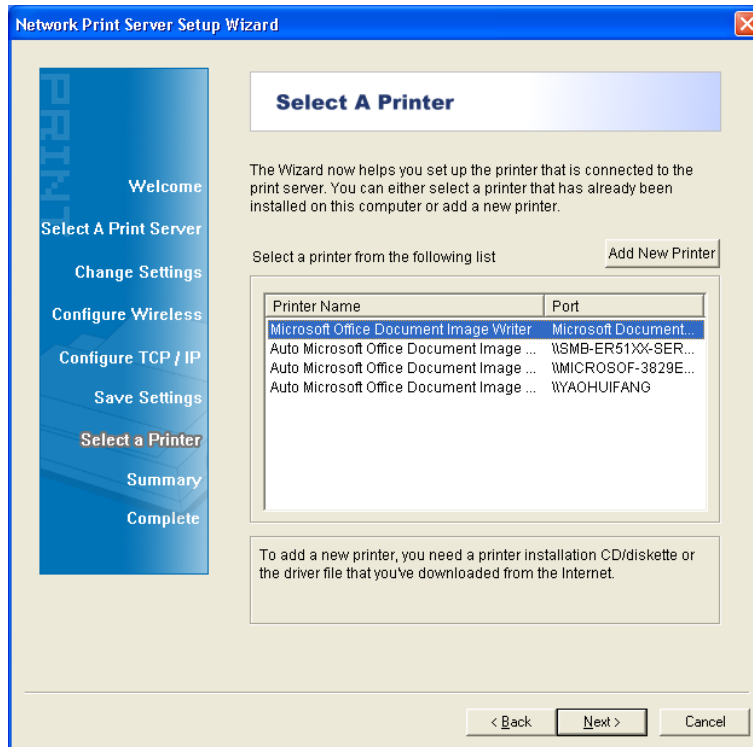
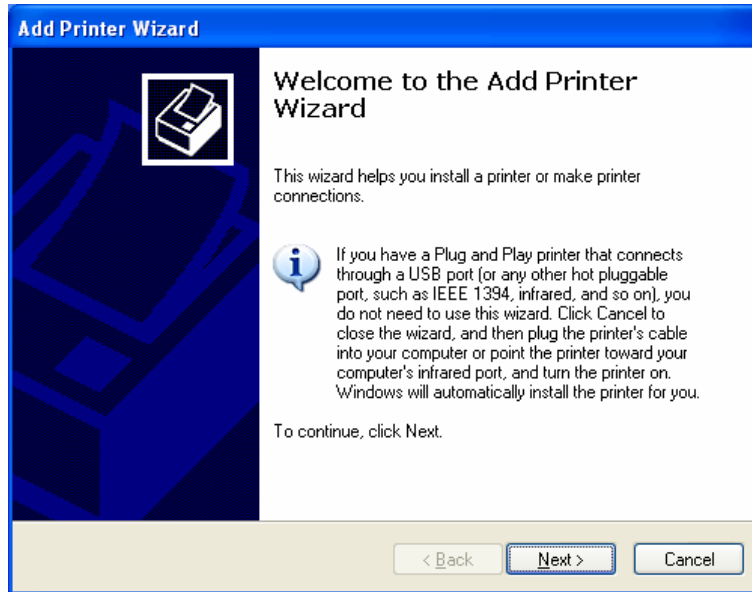

Figure 3-9
Figure 3-11
- Select **“No”** if you don’t need to change any settings. Click **Next** and then appears Figure 3-9. Skip to Step 8.
8. After that the “**Select a Printer**” page will appear, as shown in Figure 3-9.
- If you never use a printer on your computer before but also want to share printing, click **Add New Printer** button in Figure 3-9 and then Figure 3-11 appears. Follow the steps below to install the printer driver.